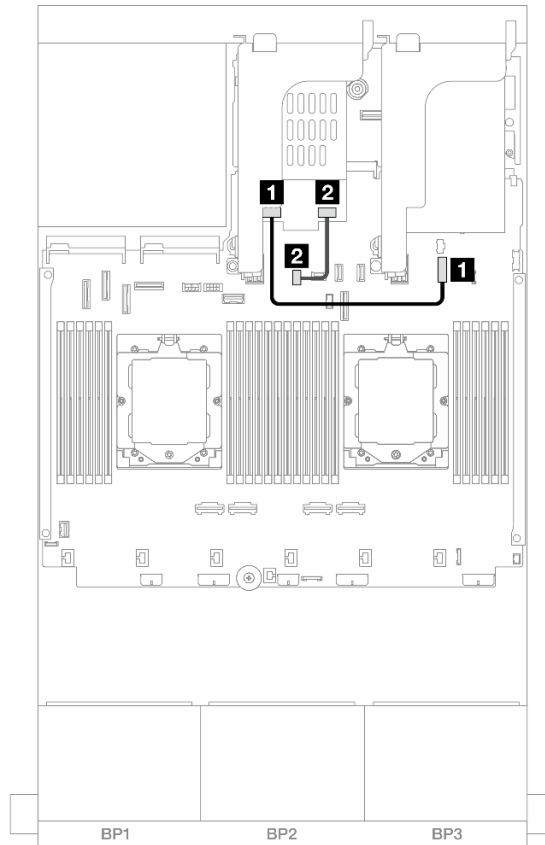

Figure 325. NVMe cable routing
- Figure 325 “NVMe cable routing” on page 365